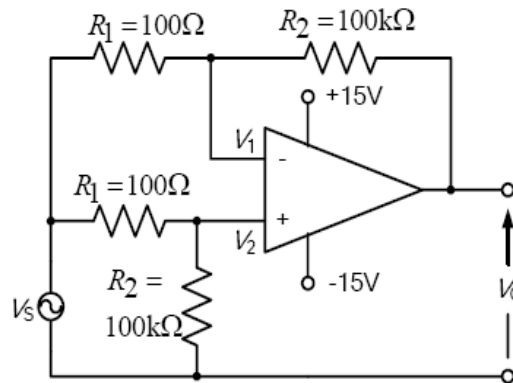

FIG. 4 CMRR
- Do the connection as shown in fig 4.
- Adjust 5Vp-p square wave of frequency 1 KHz from function generator and connect to LM710 as shown in fig 4.